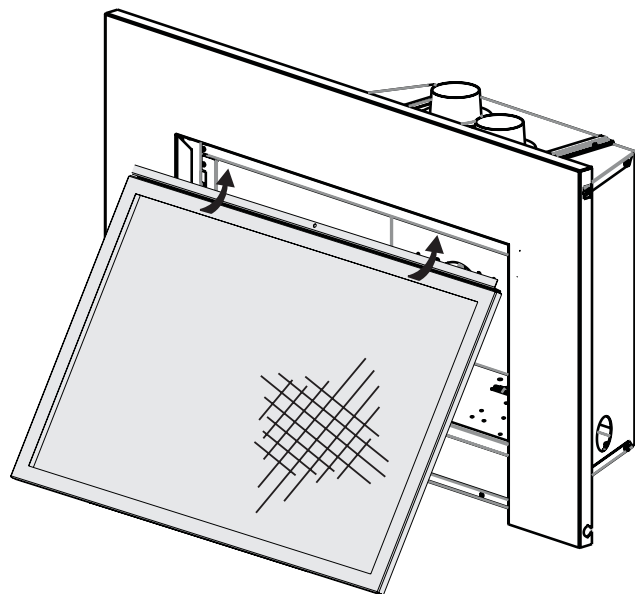

Figure 21
1. Grasp and hold the barrier screen assembly at an angle as shown in Figure 21. Insert the top of the barrier between the surround and fireplace insert top frame.